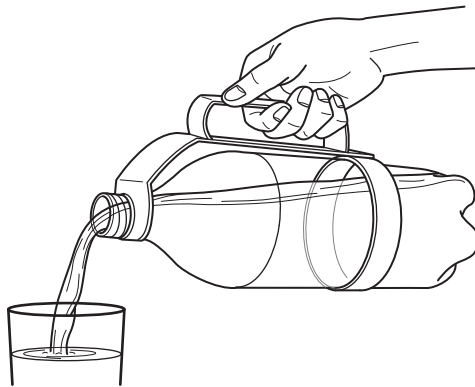

Fig. 6.1
- 6 Fig. 6.1 shows a device that is designed to assist people with limited hand movement to lift a bottle.